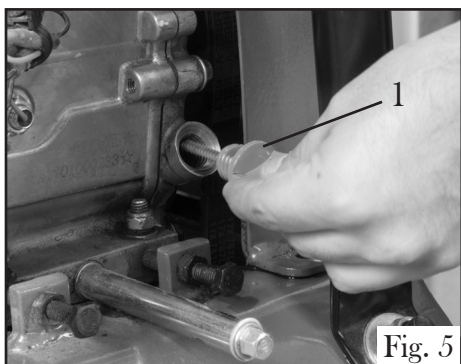

Fig. 5
2. Remove the oil filler/dipstick cap (Fig. 5 - 1) from the engine.